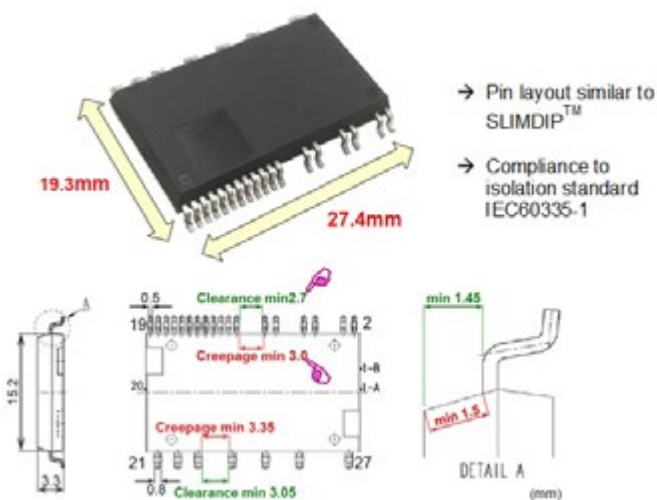
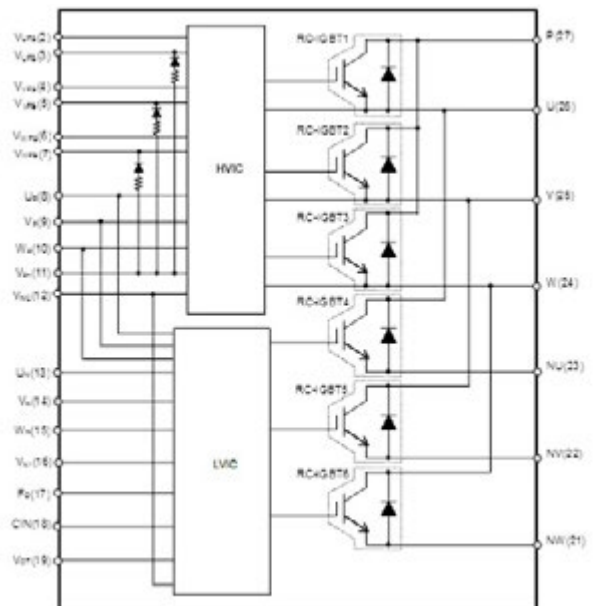

Figure 1 : Package dimensions of the MISOP™ and the pin layout indicating the compliance to the IEC60335-1
Figure 2 : The internal topology of the MISOP™
The MISOP™ is based on the Mitsubishi 7th generation Reverse Conduction (RC) IGBT chip technology. The 7th generation chip technology is a low loss thin wafer IGBT technology which allows an optimization of the balance between performance and IGBT chip size. In addition to the inherent benefits of the 7th generation chip technology, the RC technology enables a significant level of optimization of the power module's surface area requirement since the IGBT and the diode are effectively integrated into a single die. As a result, the chip surface which is normally used for the placement of diode dies are not required in this approach and therefore the IGBTs and the diodes necessary for a 3 phase inverter are effectively packed into a single package corresponding to the SOP footprint. Figure 1 indicates the size of the package and Figure 2 indicates the internal circuit topology of the power module. The pin assignment is similar to that of Mitsubishi's SLIMDIP™ module from the DIPIM™ series